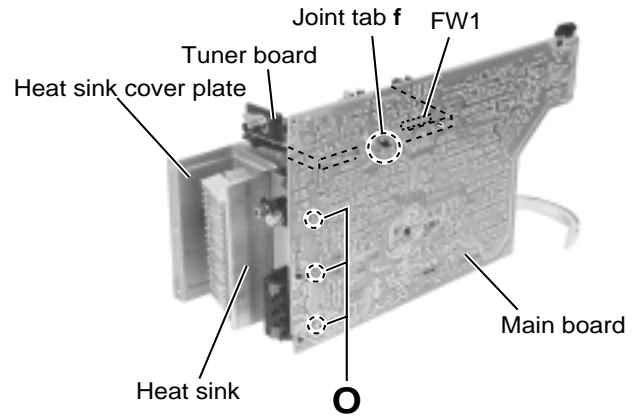

Fig.18
(See Fig.18 to 20)
1. Release the joint tab **f** of the tuner board holder and the main board, and disconnect connector **FW1** connected to the main board. Remove the tuner board assembly (Refer to Fig.18).